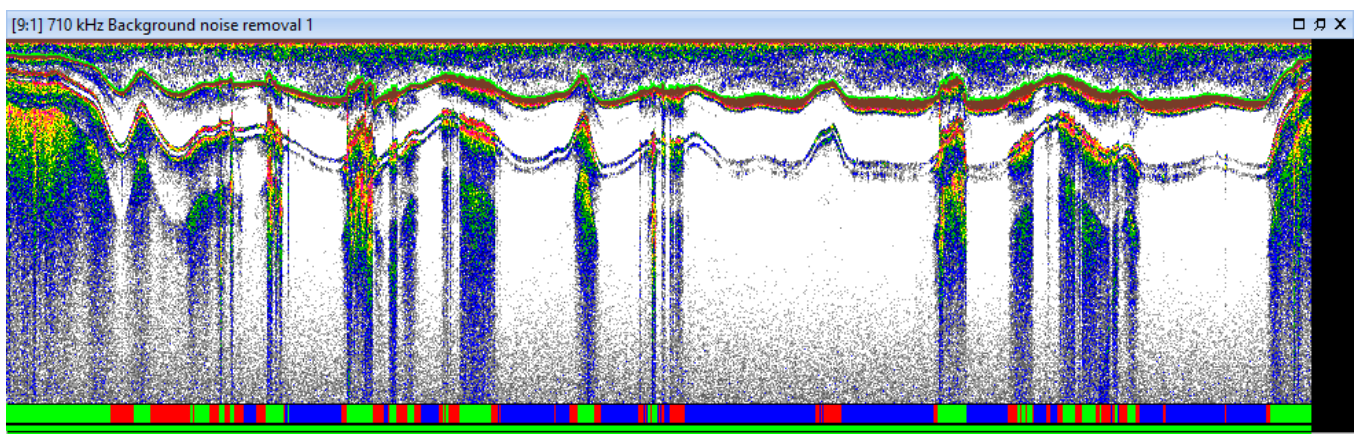

Figure 5. Echogram with bottom classification result integram shown along the bottom.
2. Review the integram for the **Background noise removal 1** echogram (Figure 5). As **Show bottom classification on integram** was selected on the **Classify Bottom** dialog box, the echogram displays the resulting bottom classification result class colors in the echogram integram area.